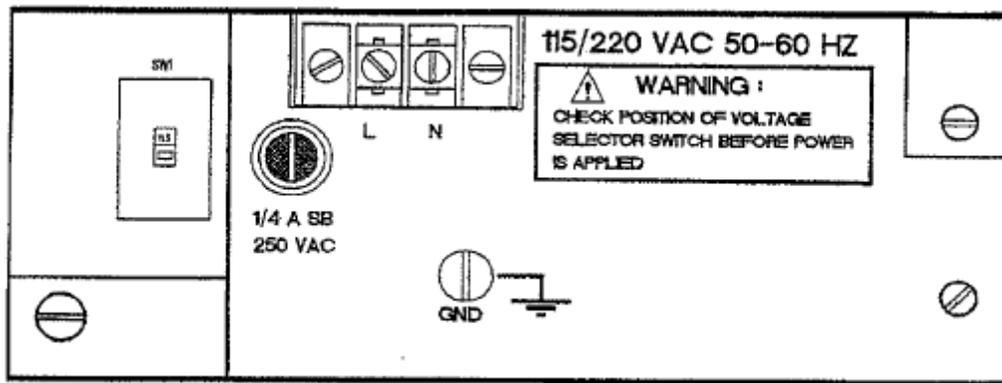

Figure 2-4. Ac Power Connections and Fuse.
2.2.1 Mains (AC) Power (Figure 2-4)
A screw terminal is provided for permanent transmitter power connection. All units are shipped from the factory configured for 115 VAC operation. To select 230 VAC operation, change SW1 on the base or 'mother' board (see Figure 2-4) to the 230V setting. The unit will operate within specification at 50 or 60 Hz. Before connecting power to the unit, verify that the proper power selection has been made. The two position terminal block is equipped with a clear plastic cover to prevent operator injury. Cable can be either solid or stranded 12 or 14 gage with a ground conductor.